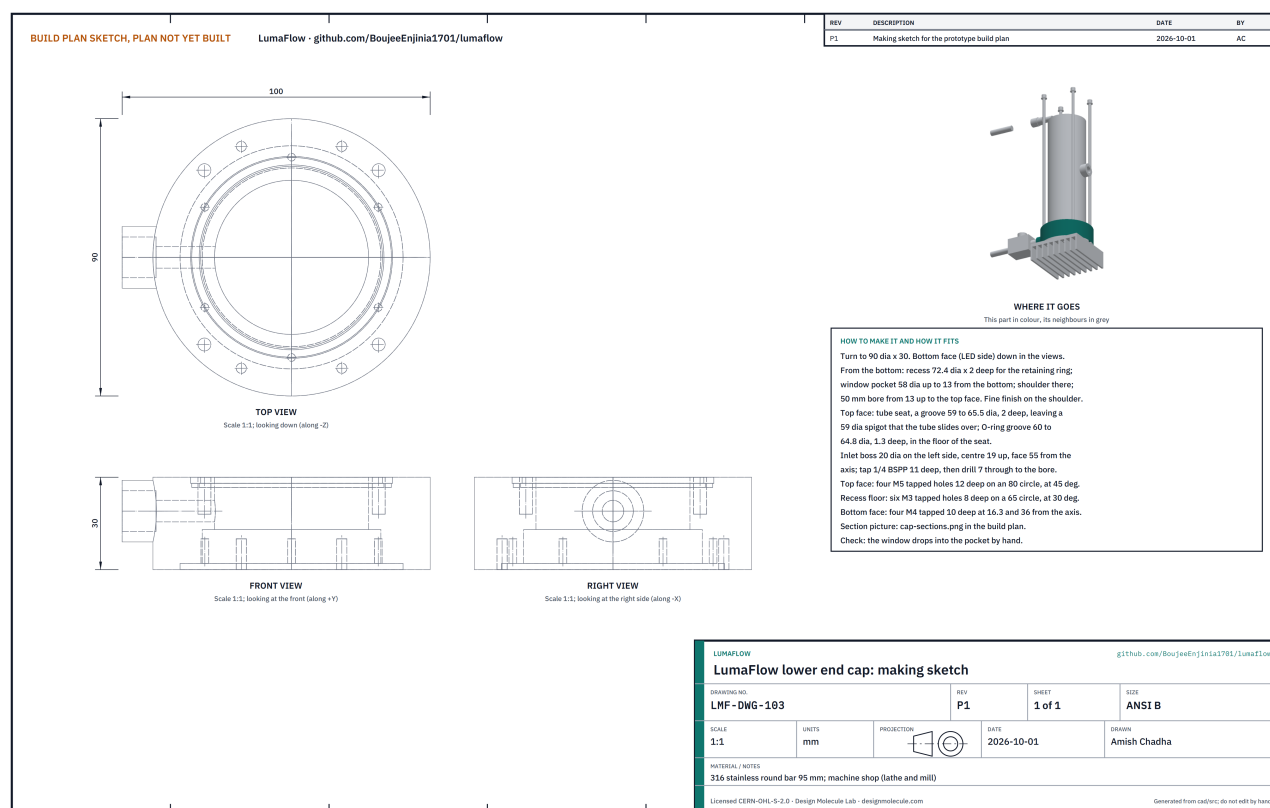

Figure 7. Lower end cap making sketch (LMF-DWG-103).
**What it is and what it is made from.** The stainless block at the bottom of the reactor: it holds the window over the LEDs, carries the water inlet, takes the LED heat into the water and anchors the tie rods. 316 stainless round bar, machined to 90 mm across and 30 mm tall. This is machine-shop work; send them Figures 7 and 8.